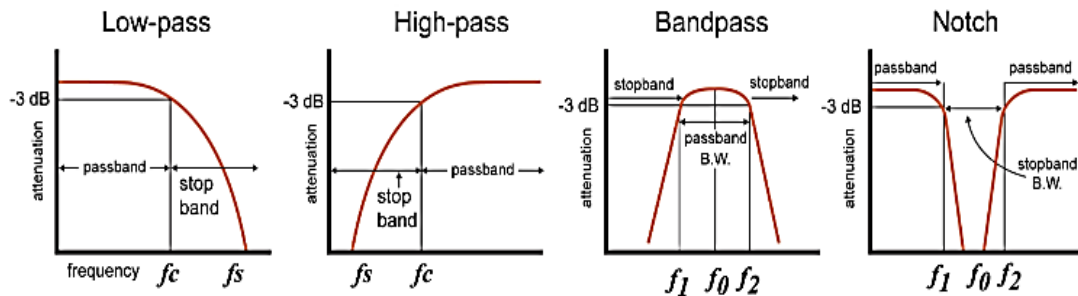

Fig. 5-2 Response curves for the four major filter types
- **Response curve** is simply a graph showing an attenuation ratio (V_{OUT} / V_{IN}) versus frequency of a filter then describe how a filter behaves as shown in Fig. 5-2.